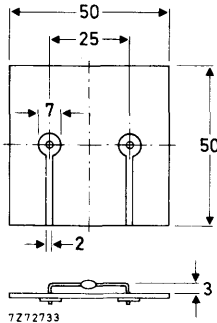

Fig.2 Mounted on a printed-circuit board.
2. Thermal resistance from junction to ambient when mounted on a 1.5 mm thick epoxy-glass printed-circuit board; Cu-thickness $\geq 40\text{ }\mu\text{m}$; Fig.2